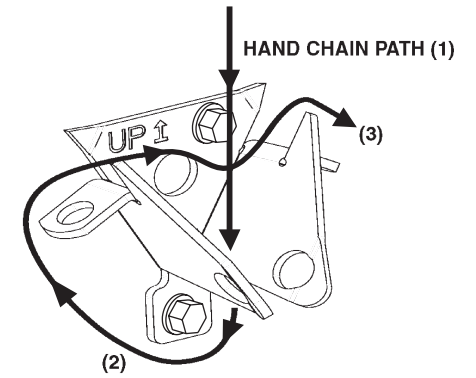

Figure 28
- Instruct door users to wrap hand chain, as shown in Figure 28.